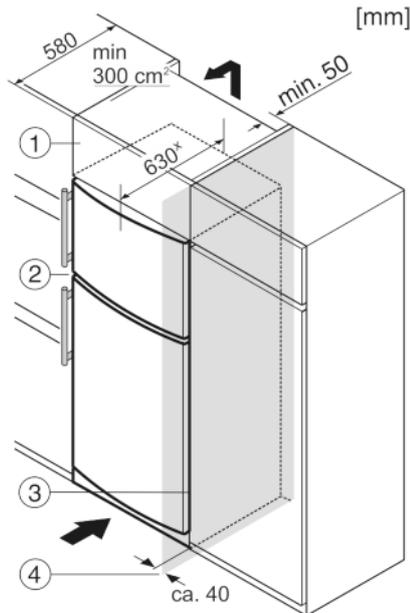

Fig. 10
- (1) Stack cabinet
(2) Appliance
(3) Kitchen cabinet
(4) Wall
The appliance can be built into kitchen units. A top cupboard Fig. 10 (2) can be added above the appliance in order to bring the appliance Fig. 10 (1) up to the height of the fitted kitchen units.
When installing with kitchen units (max. depth 580 mm), the appliance can be positioned directly next to the kitchen cabinet Fig. 10 (3). The appliance will project by 34 mm * at the sides and 50 mm * in the centre of the appliance in relation to the kitchen cabinet front.
If the appliance is installed with the hinges next to a wall Fig. 10 (4), the distance between appliance and wall has to be at least 40 mm. This corresponds to the projection of the handle when the door is open.